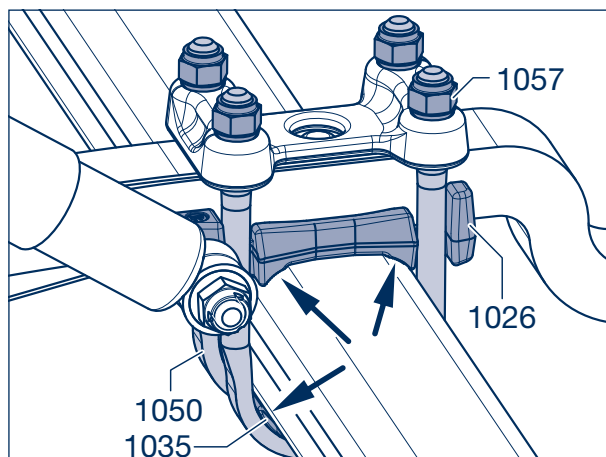

Figure 17
- ! [27] Gently tighten lock nuts (1057, SW 32) - on each spring U-bolt (1050) - until all components make uniform contact. (The spring pads (1026) and segments (1035) of square axle beams should rest just within the radii of the axle beam (Figure 17, arrows)). !